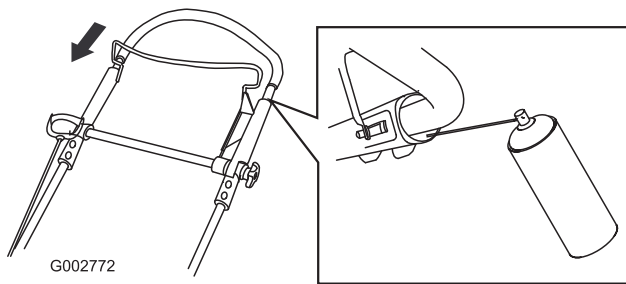

Figure 41
2. Push the upper handle fully down and spray the inner plastic surface of the outer handle (Figure 41).